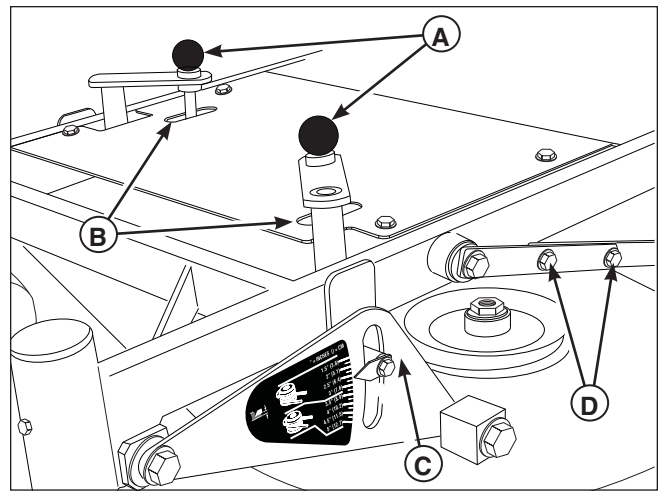

Figure 28. Remove the Cutter Deck Guard
2. Pull the cutting height adjustment handle (A, Figure 28) up and out of the handle lock position (B) and crank the handle **clockwise** and adjust the deck to the 3" (7,6 cm) position.
4. Place 2 x 4 blocks under the rear of the mower deck with the 3-1/2" sides being vertical. See Figure 28.